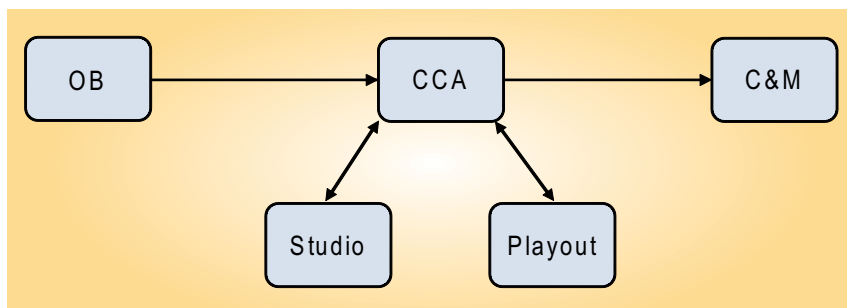
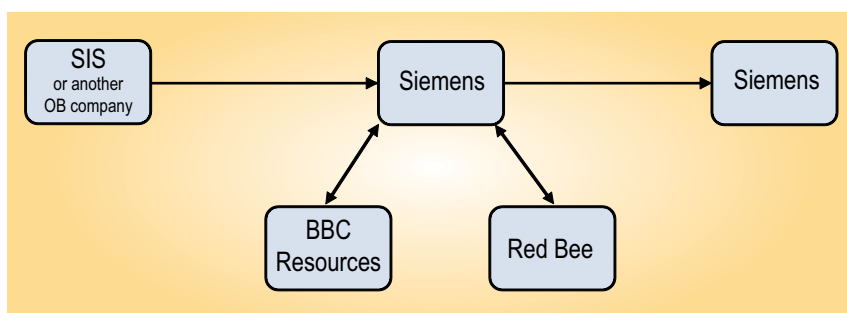

Figure 1
Figure 2
Much of the difficulty in managing the implementation of a new technology across wide areas of the broadcast infrastructure lies in co-ordinating the efforts of disparate technical departments. In the modern BBC, as with many other broadcasters, the problem is compounded by the fact that large swathes of the distribution infrastructure are handled by external organizations. The path of a live high-definition outside broadcast (OB) is summarized in *Fig. 1*, while the corresponding companies involved are illustrated in *Fig. 2*.